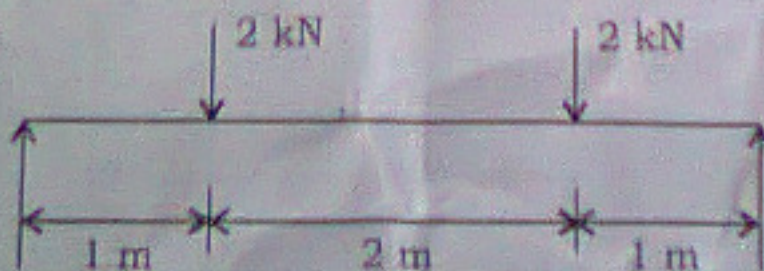

Fig. 6
7. For the given Fig. 6, find the ratio of deflections in the centre of the beam to the deflection at the point under one of the loads, using conjugate beam method.